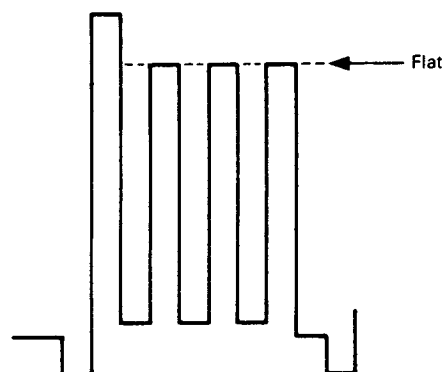

Fig. 6. Wave form of colour output
- (1) Tune receiver to PAL colour bar signal.
- (2) Connect the oscilloscope to pin ③ of the connector **CT**.
- (3) Set SHARPNESS control at click stop position and press "OPTIMUM" button.
- (4) Adjust SUB-COLOUR control VR202 so that the tops of the waveforms shall be flat as shown in Fig. 6.